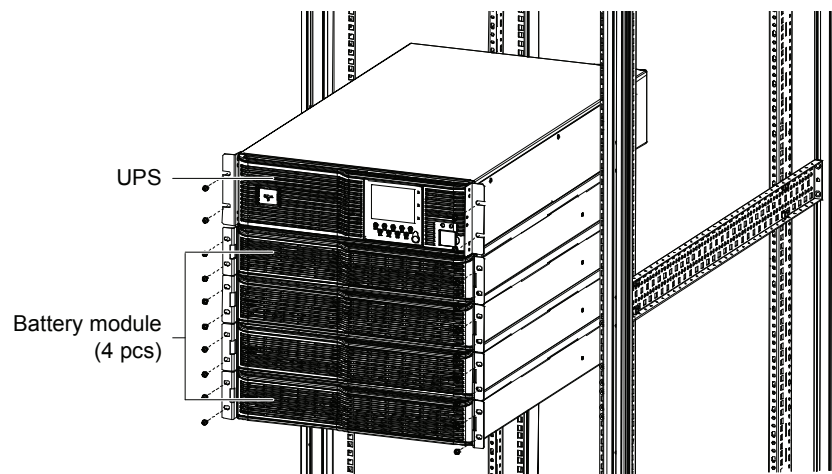

Figure 2-12 Installation of UPS with battery modules
The installation method of the battery module is the same as that of the UPS. Repeat the previous procedures to install and fix the four battery modules and a UPS in the rack one by one, as shown in Figure 2-12.
- Install the battery modules first, start the installation from the bottom, and then place the UPS onto the top, as shown in Figure 2-12.